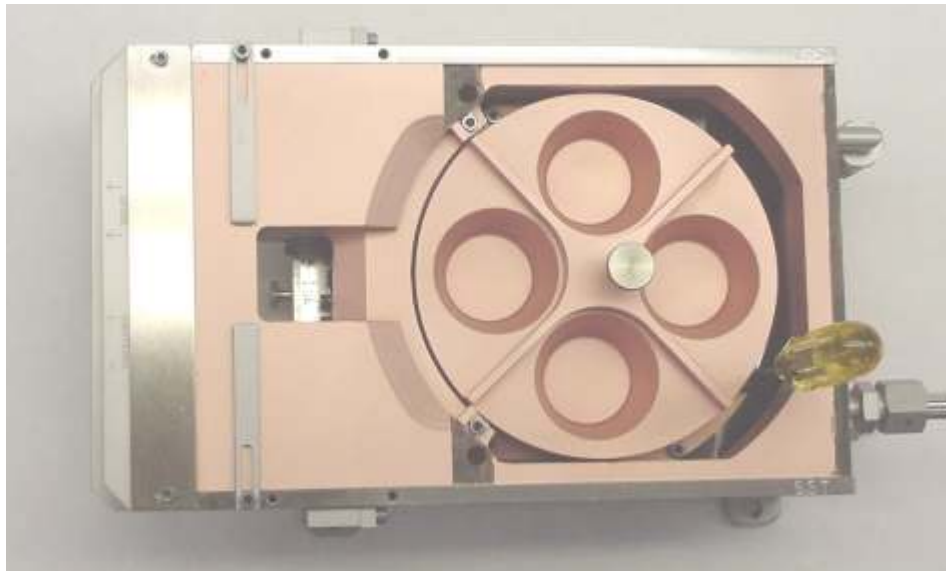

Figure 3-6. Removing the screws that secure the crucible to the crucible mounting flange
6. Remove the screws securing the crucible to its mounting flange. There are eight of these screws, and six of them will be accessible if you turn the crucible to the position shown in Figure 3-6. Perform the following steps in removing these screws: